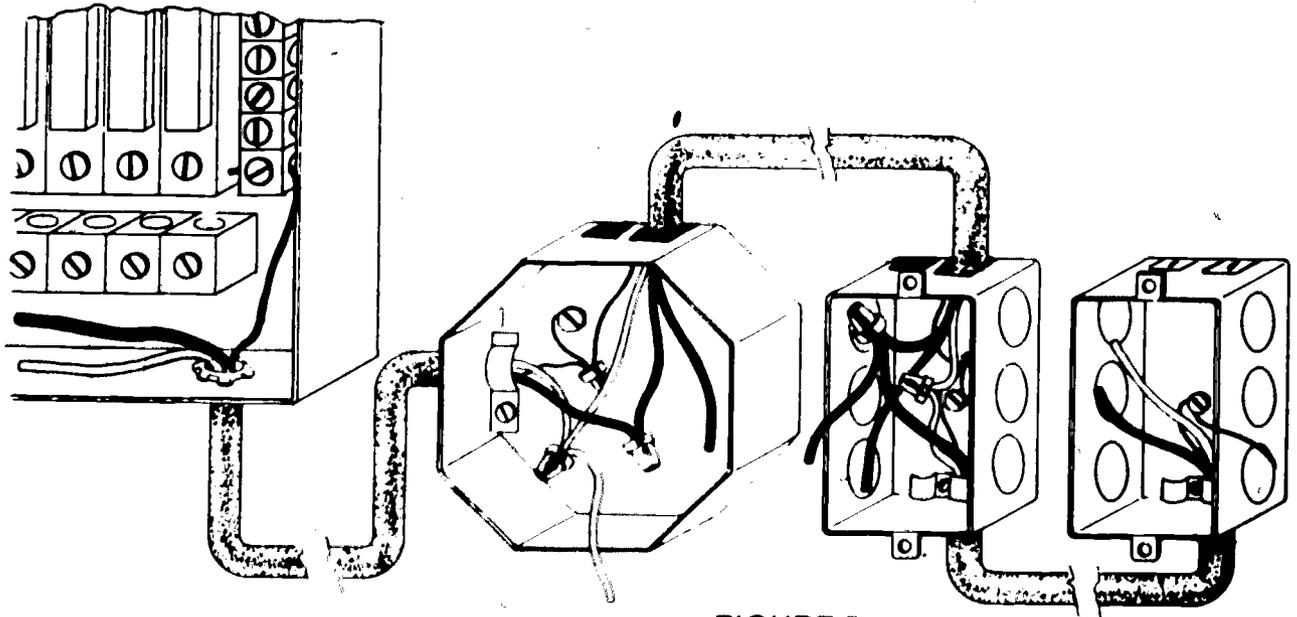

FIGURE 5
L. Make up switch, return, and feed through conductors (Figure 5)